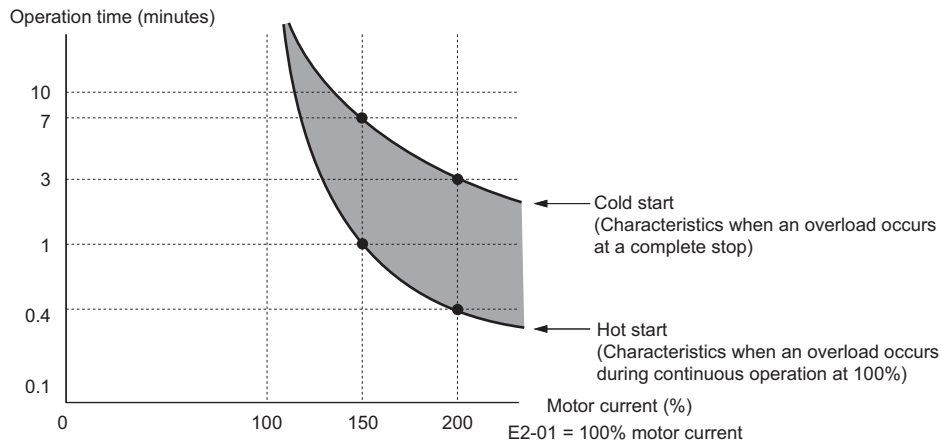

Figure 5.34 Protection Operation Time for General Purpose Motors at the Rated Output Frequency
*Figure 5.34* shows an example of the electrothermal protection operation time using a general-purpose motor operating at the value of E1-06, Motor Base Speed, with L1-02 set to one minute.